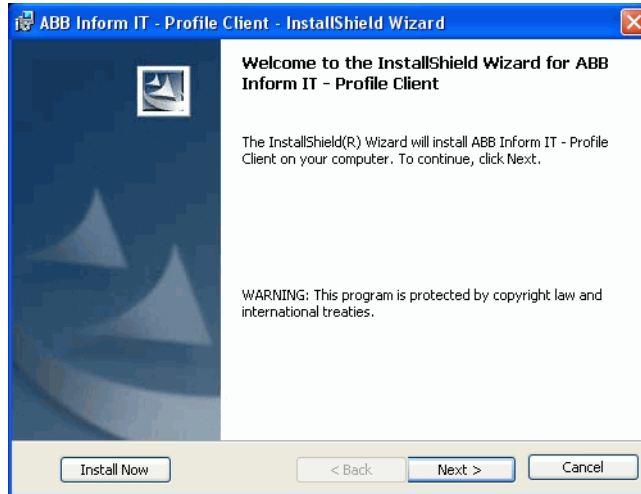

Figure 5. InstallShield Wizard
2. Click **Install Now**, Figure 5. The wizard indicates the progress of the install.